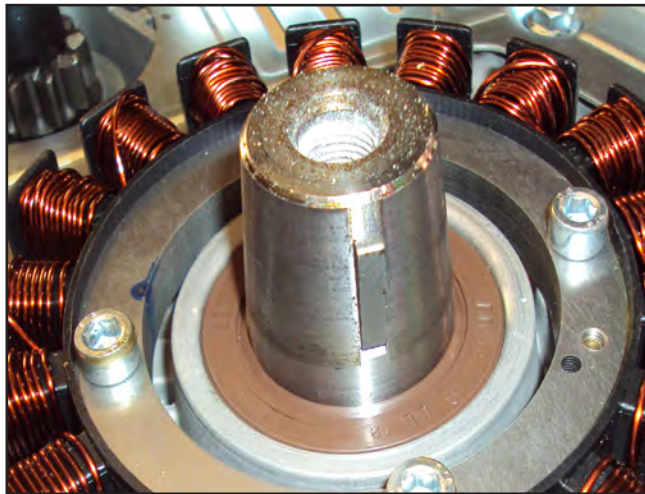

Figure 31
**NOTE:** Long flat of key should be parallel to the length of the crankshaft, not parallel to taper of crankshaft (Figure 31).